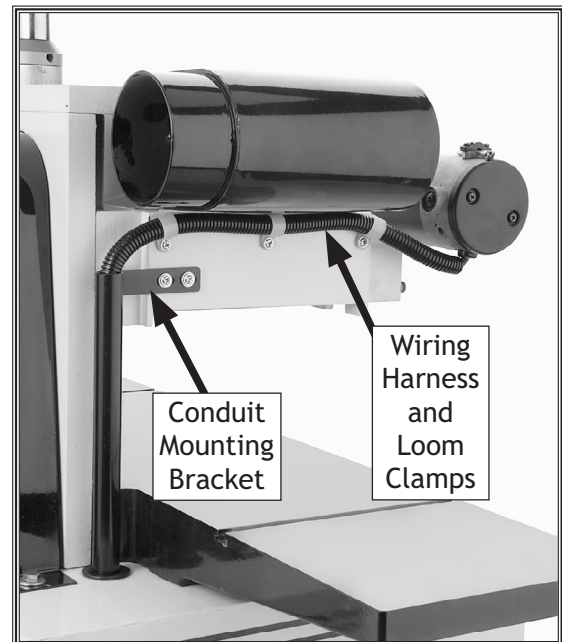

Figure 14. Conduit installation.
14. Fasten the conduit mounting bracket (**Figure 14**) to the headstock with two $\frac{5}{16}$ "-18 x $\frac{3}{8}$ " flange screws.